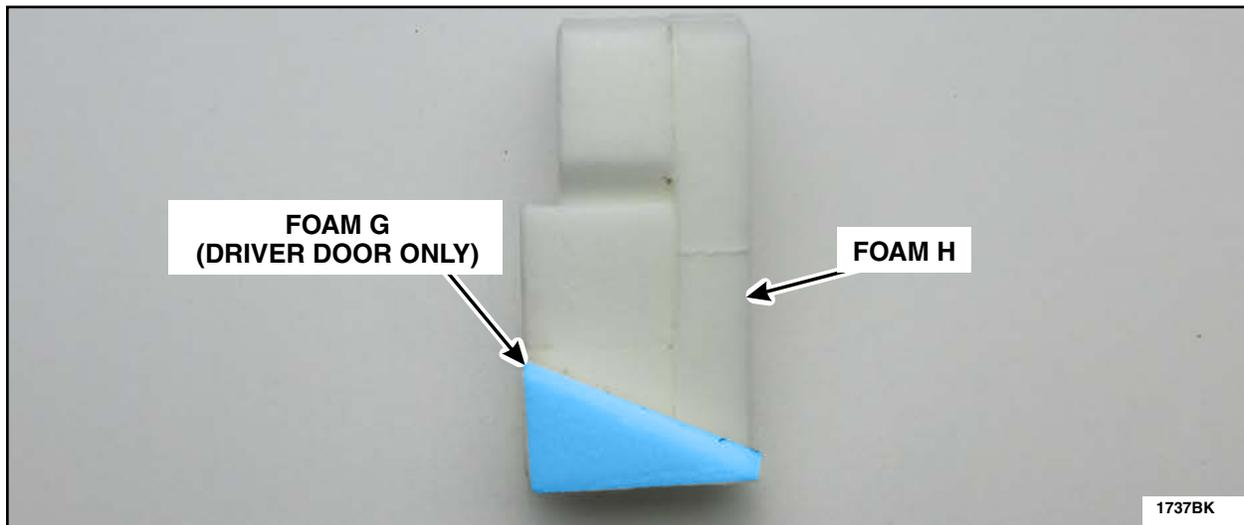

FIGURE 33
1. For driver door latch only, attach Foam G to Foam H. See Figure 33.